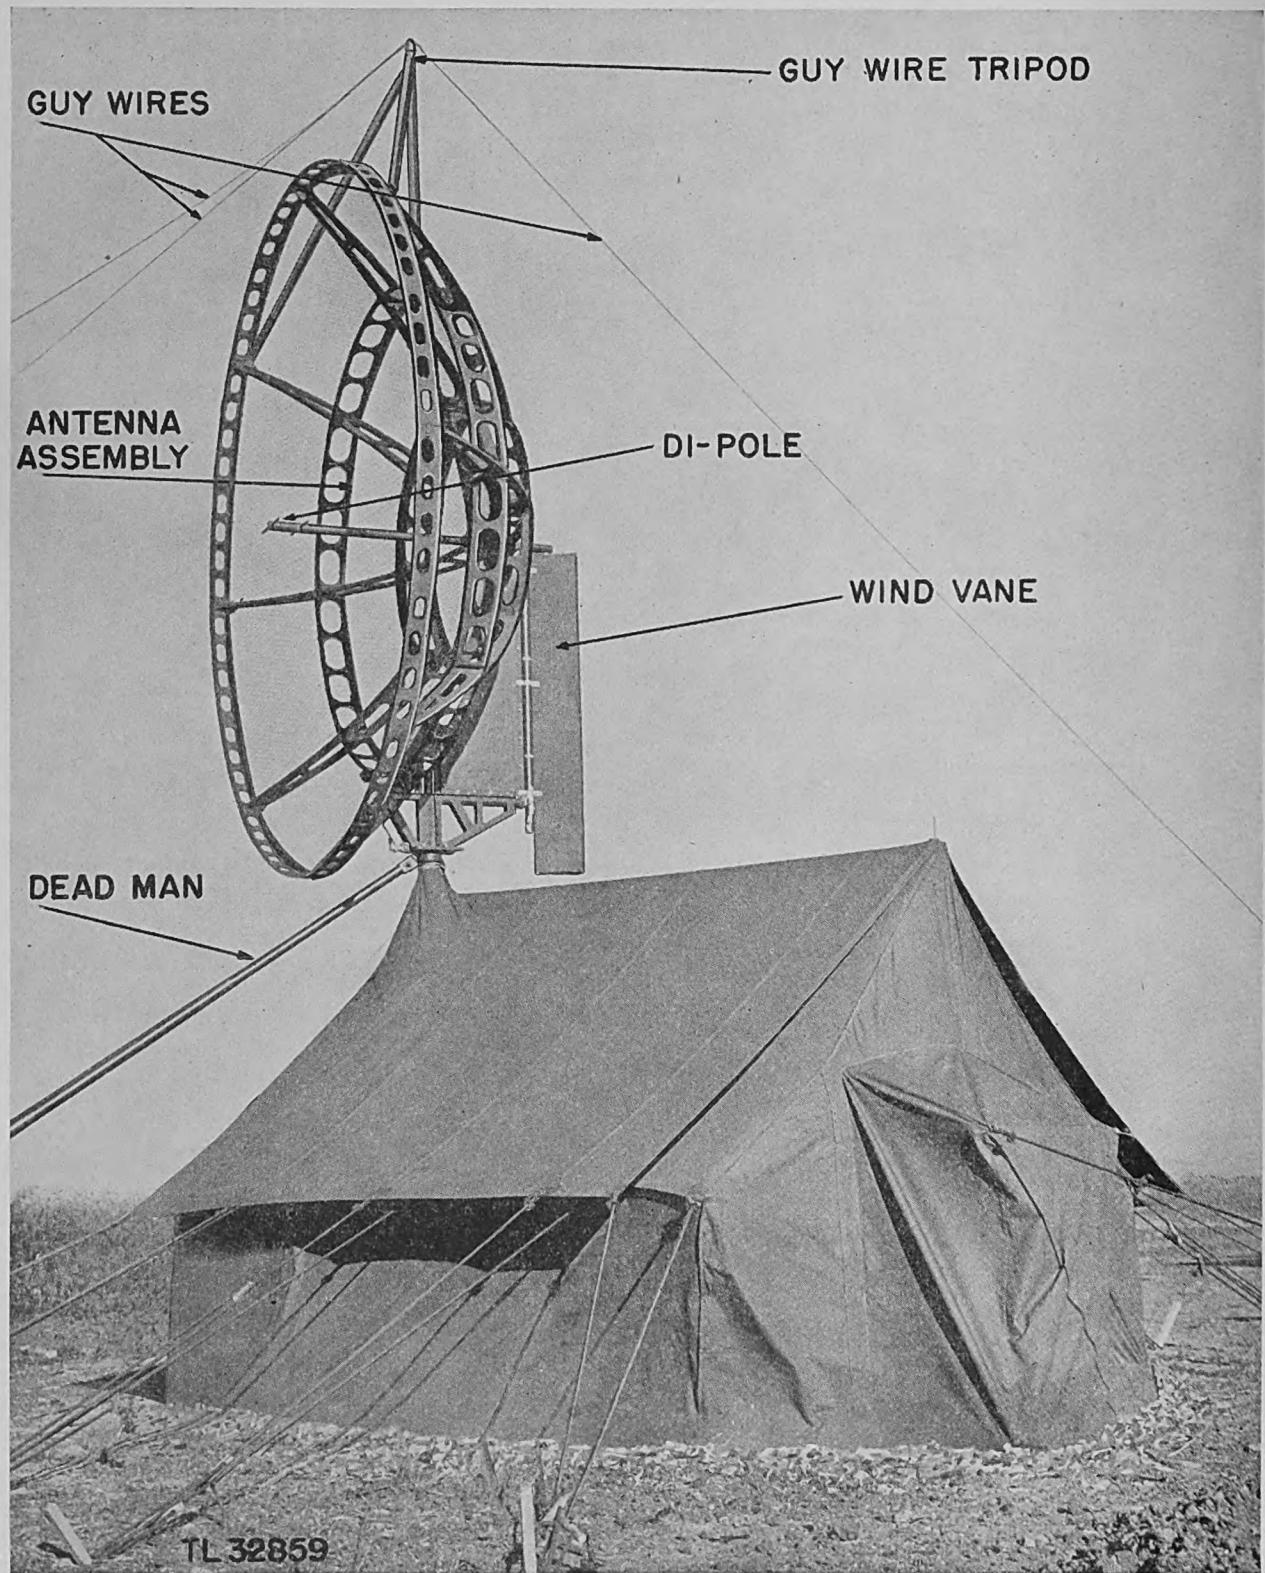
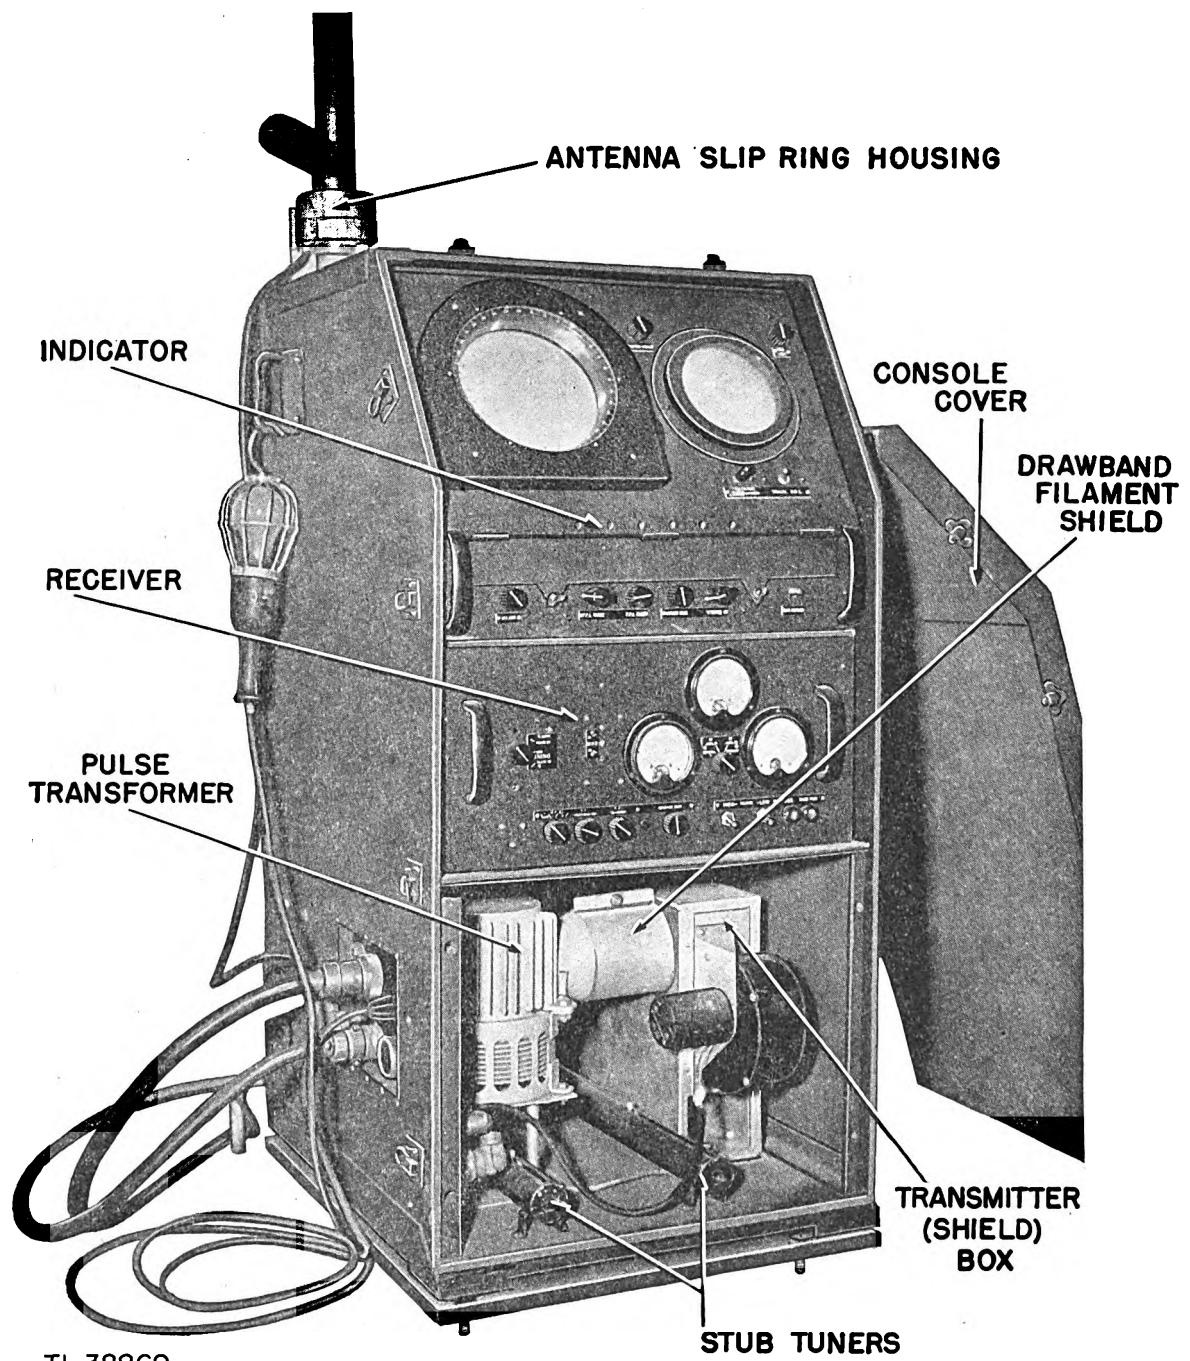

Figure 1. Radio Set AN/TPS-3.
Figure 2. Console with lower panel removed.
*b. Description.* This set consists of a main console (fig. 2), an r-f plumbing system, and a dipole antenna using a parabolic reflector. The console with its feeder system forms one leg of a tripod. The other two legs of the tripod are wooden members, called "deadmen". These deadmen are anchored in the ground and provide support for the antenna. As added support, the antenna is guyed at the top by three wires fixed by ground stakes. The entire system with the exception of the antenna is housed in a wall tent (fig. 1). When delivered, the radio set comes packed in heavy export shipping crates. Inside the heavy packaging are light-weight air-transit cases. These transit cases are suitable for carrying the set by hand or for loading it into aircraft for air-transport.
*c. Wall Tent.* (1) The tent used with Radio Set AN/TPS-3 is provided with a light-proof entrance, an opening for a ventilating fan, and two console-ventilating boots. These boots are attached to the two exhaust ducts on the console.
(2) For ventilating purposes the tent is provided with a fan which draws air through the entrance, the tent, and out the other side at the top of the tent. In cold climates the boots are not connected to the console ducts, and the heat dissipated by the set is used to warm the tent.
(3) The tent is provided with a sod cloth which should be buried with the dirt removed in digging the drainage trench around the tent. This cloth